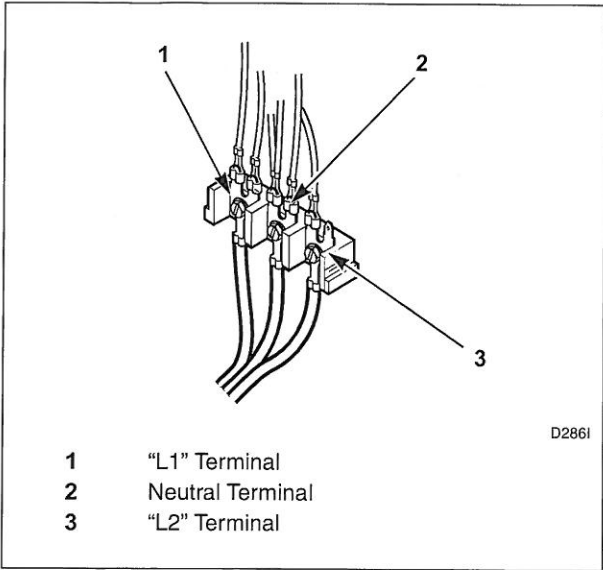

Figure 15
- 4. Use the three screws from the accessories bag to attach the power cord wires to the terminal block. Refer to *Figure 15*.